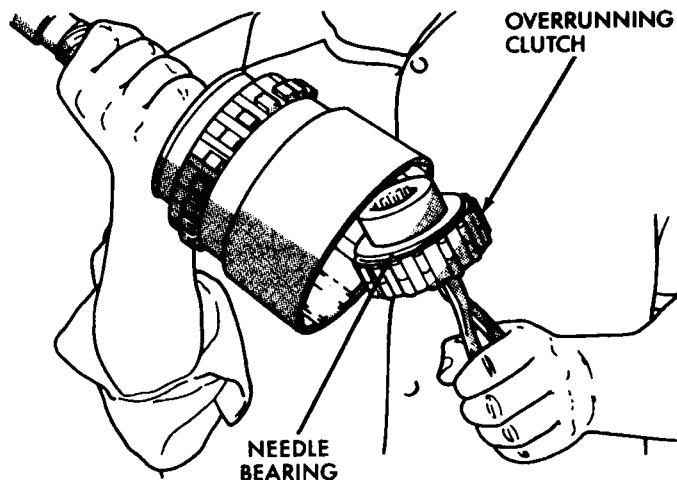

Fig. 27 Overrunning Clutch Removal
- (16) Remove overrunning clutch assembly with expanding type snap ring pliers (Fig. 27). Insert pliers